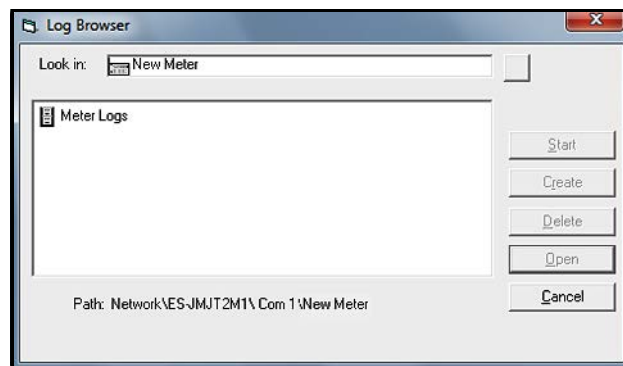

Figure 65: Log Type Selection
- c. Double click on the *meter name* to move to the network level shown in Figure 65 below.